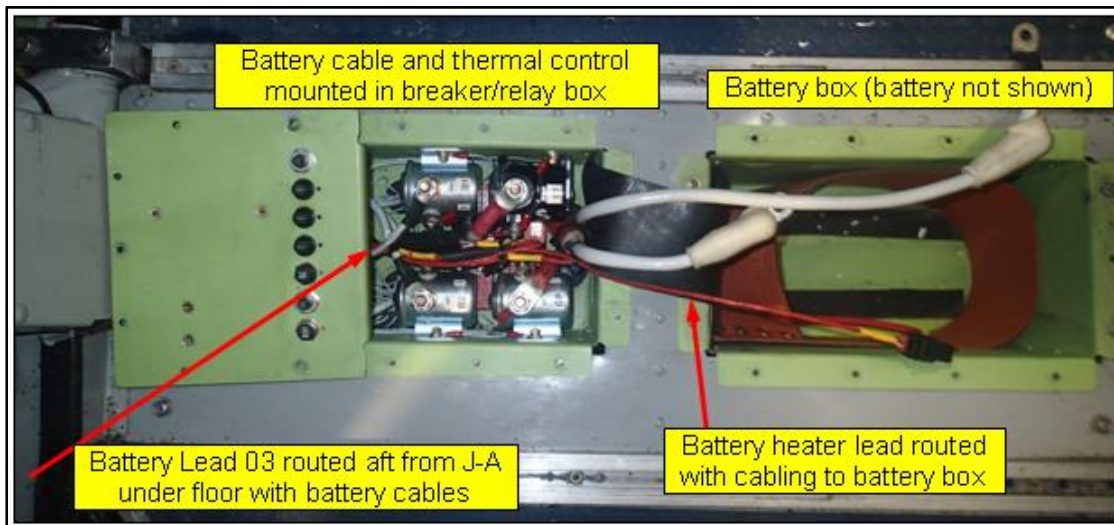

Figure 18 – Battery cable mounted in breaker box with.
- 03 – Route from junction J-A following battery cable to breaker switch box under pilot seat. Connect to battery thermal control cabling (Figure 18). Route battery lead with socket connector to battery element.
Figure 8 - Examples of generic battery heat element installation. Battery heat system incorporates cable assembly with dedicated thermal control (Figure 18 and instruction TN02800).